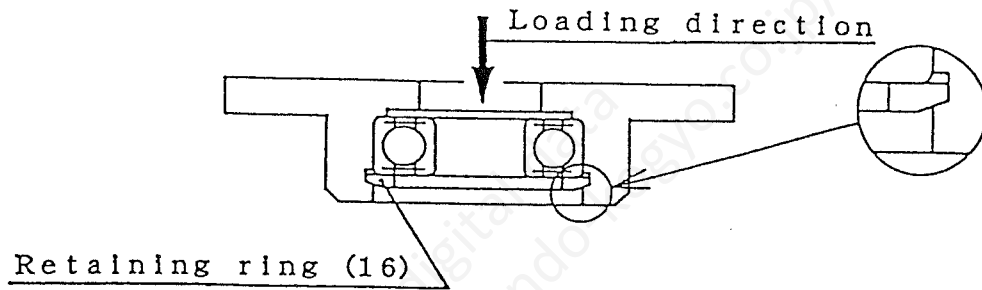

Fig. 13
- ⑤ Install Planet shaft(5) in Gear housing(1), and lubricate the gear portion of Planet shaft(5).
- ⑥ Install Ball bearing(9).
- NOTE: Take care not to mix End plates(13), Retaining rings(16), Ball bearings(15) and Spacers(14) which are kept separately when disassembled.
- ① Set up Retaining rings(16) so the chamfered face bears the load. The non-chamfered face contacts Ball bearing(15) (see Figure 13).